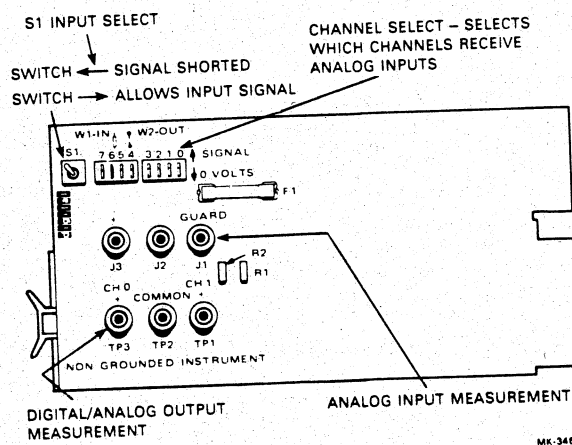

Figure 3-13 A908 Analog I/O Test Module
- A908 analog I/O test module (see Figure 3-13).